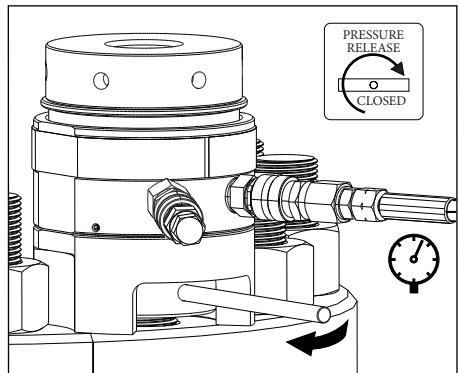

FIGURE 9, TURNING DOWN THE SOCKET AND NUT
7. While holding the pressure constant, use a tommy bar to turn down the first socket and nut by hand. Continue tightening until the nut is firmly seated against the joint surface. See figures 9 and 10.
- While holding the pressure constant, use a tommy bar to turn down the first socket and nut by hand. Continue tightening until the nut is firmly seated against the joint surface. See figures 9 and 10.
19. While holding the pressure constant, use a tommy bar to turn down the first socket and nut by hand. Continue tightening until the nut is firmly seated against the joint surface. See figures 9 and 10.